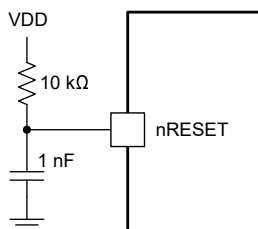

Figure 7-2. nRESET Pin With R-C Network
- If an application does not use the nRESET signal, the nRESET pin must be tied to VDD, either by direct connection to the VDD pin, or by an R-C circuit as shown in Figure 7-2. The R-C circuit in Figure 7-2 can be also used to delay reset at power up. If an application uses the nRESET external pin, the trace of the nRESET signal must be kept as short as possible. Be sure to place any components connected to the nRESET signal as close to the device as possible.